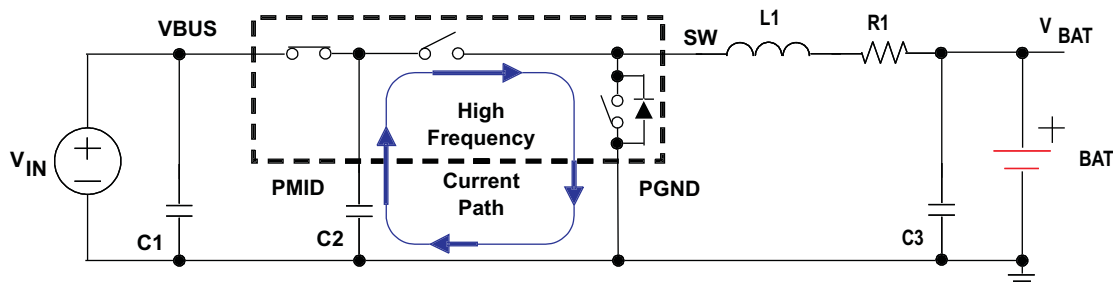
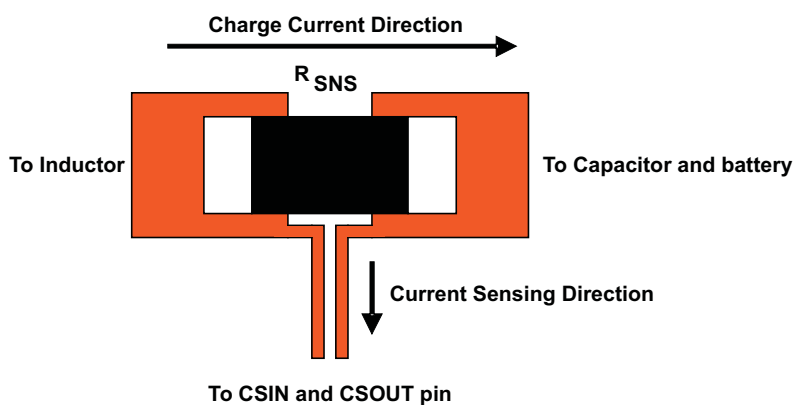

Figure 23. High Frequency Current Path
Figure 24. Sensing Resistor PCB Layout
- To obtain optimal performance, the power input capacitors, connected from input to PGND, should be placed as close as possible to the bq24155. The output inductor should be placed close to the IC and the output capacitor connected between the inductor and PGND of the IC. The intent is to minimize the current path loop area from the SW pin through the LC filter and back to the PGND pin. To prevent high frequency oscillation problems, proper layout to minimize high frequency current path loop is critical (see Figure 23). The sense resistor should be adjacent to the junction of the inductor and output capacitor. Route the sense leads connected across the RSNS back to the IC, close to each other (minimize loop area) or on top of each other on adjacent layers (do not route the sense leads through a high-current path, see Figure 24).